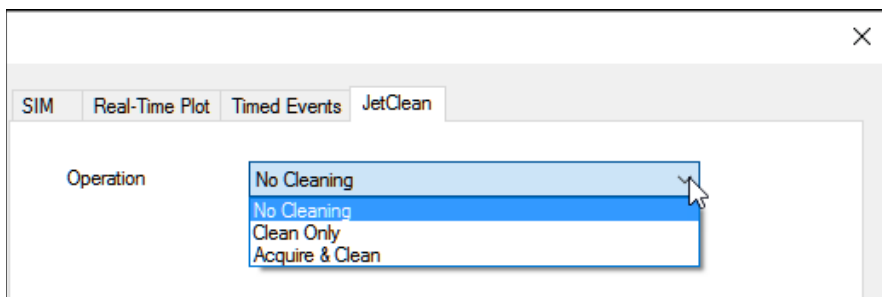

Figure 32 Selecting the JetClean Operation mode
- 2 In the Single Quadrupole MS Method Editor navigation panel, select the **JetClean** tab. (See **Figure 32**.)